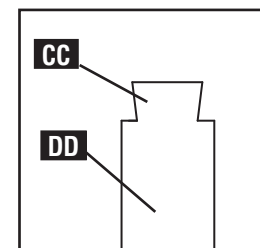

Fig. H22
**CENTERING THE TENON:** The tenon (CC) (side view at Fig. H22) might need to be centered on its board (DD), as shown. This is purely for aesthetic reasons; it will not significantly affect the strength of the joint.
To center the tenon (CC) on the board (DD) (as shown in Fig. H22), the C2 template stops will need to be adjusted. To do this: